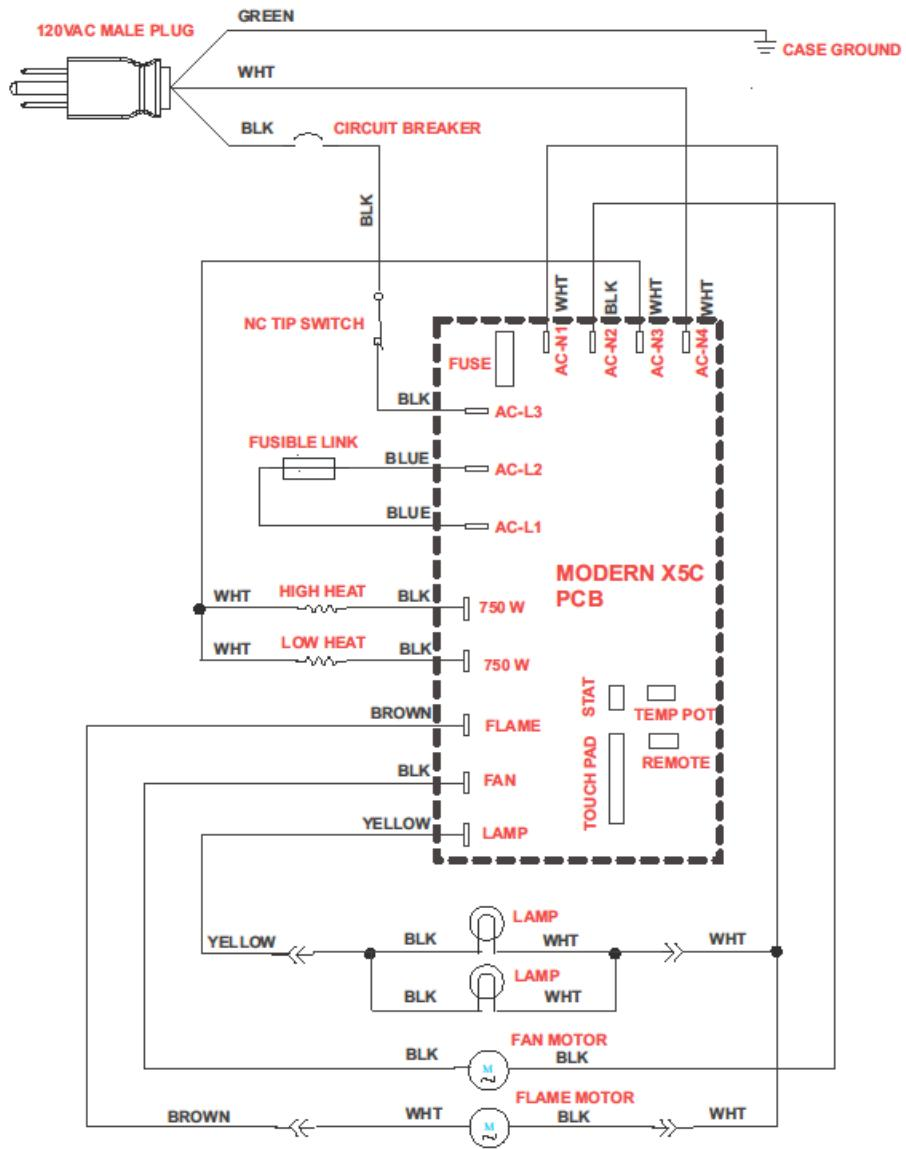

***Figure 10, touch keypad installation***
- 9) Install the new touch keypad, Heat Surge PN #30000210, on the new PCB. **Refer to Figure 10.**